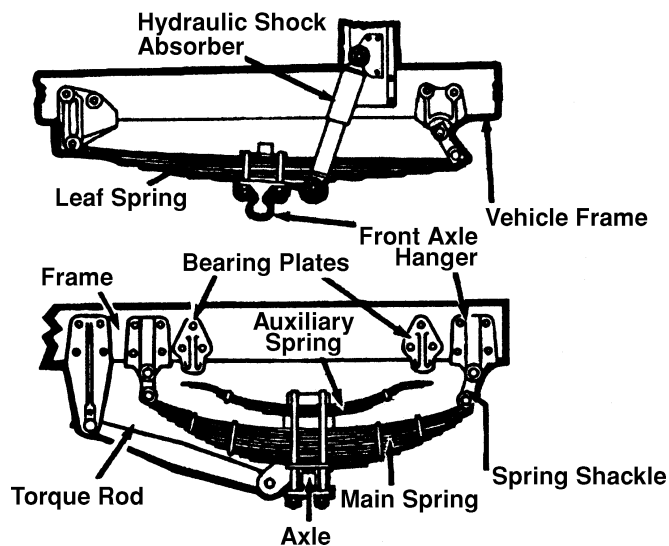

Figure 2-2
- ✓ Spring hangers (Figure 2-2) that allow movement of the axle from its proper position.
- ✓ Torque rod or arm, u-bolts, spring hangers, or other axle positioning parts that are cracked, damaged, or missing (Figure 2-2).